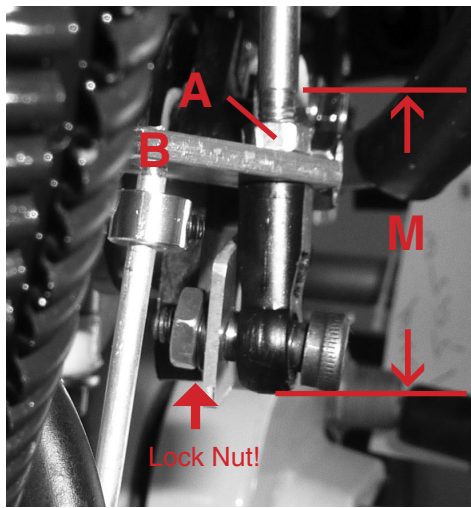
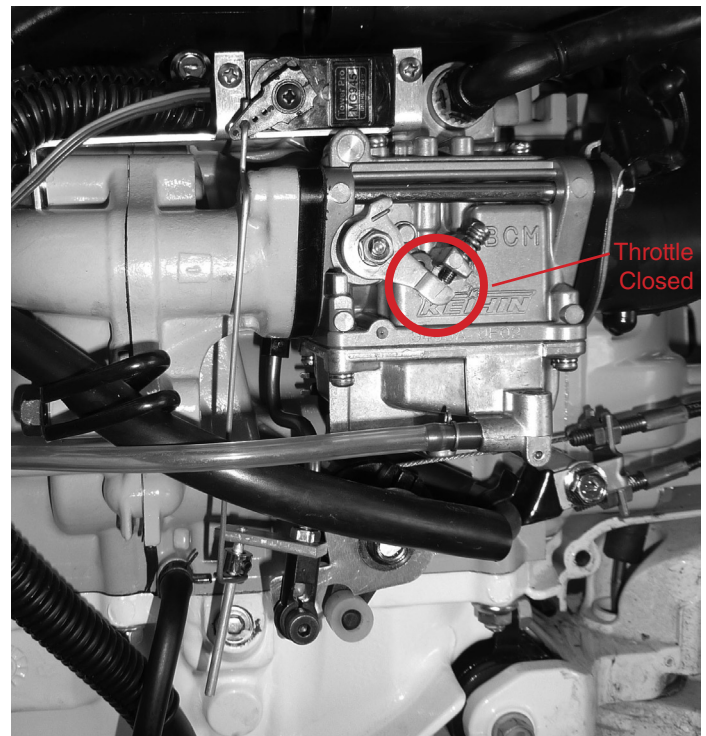

Figure 7
Figure 10 - Complete Installation
### Step 7: See Fig. 7
### Step 8: See Fig. 7
- Install servo arm and pull rod as shown in Fig. 10. Note that rod in throttle adapter (Fig. 7) goes THROUGH loop in pull rod.
- Make sure throttle is fully closed. See Fig. 10